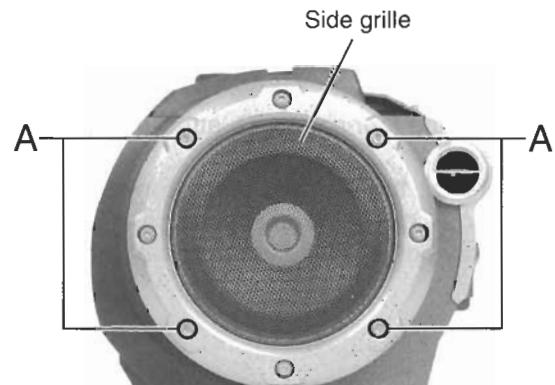

Fig.1
■ Removing the side grilles ( See Fig.1)